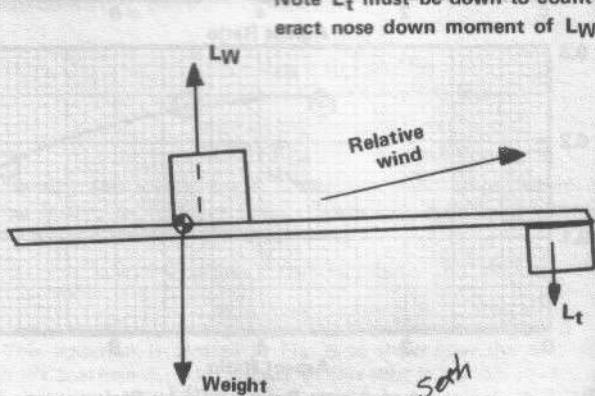

FIGURE 8: Distribution of Lift on a Glider with Forward Center of Gravity.
Equation (12) shows that as the C.G. approaches the quarter chord of the wing, then the distance  $x$  decreases and the moment required to stabilize the glider is decreased. In fact, if the C.G. is moved ahead of the wing quarter chord, the tail lift must decrease so much, as shown in Fig. 8, that it becomes negative. At the same time, if  $L_t$  is negative, the wing lift must be increased according to Eq. 11 to support the weight. This is why the statement was made earlier about forward C.G. locations being an inefficient way to trim a glider.